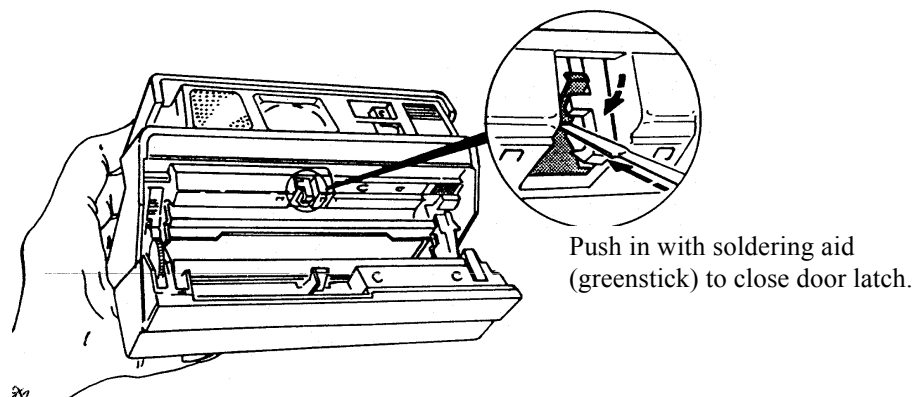

Figure 3-2 Close The Spectra Camera Door Latch
4. Using the tip of a solder aidee, close the camera door latch (Figure 3-2).